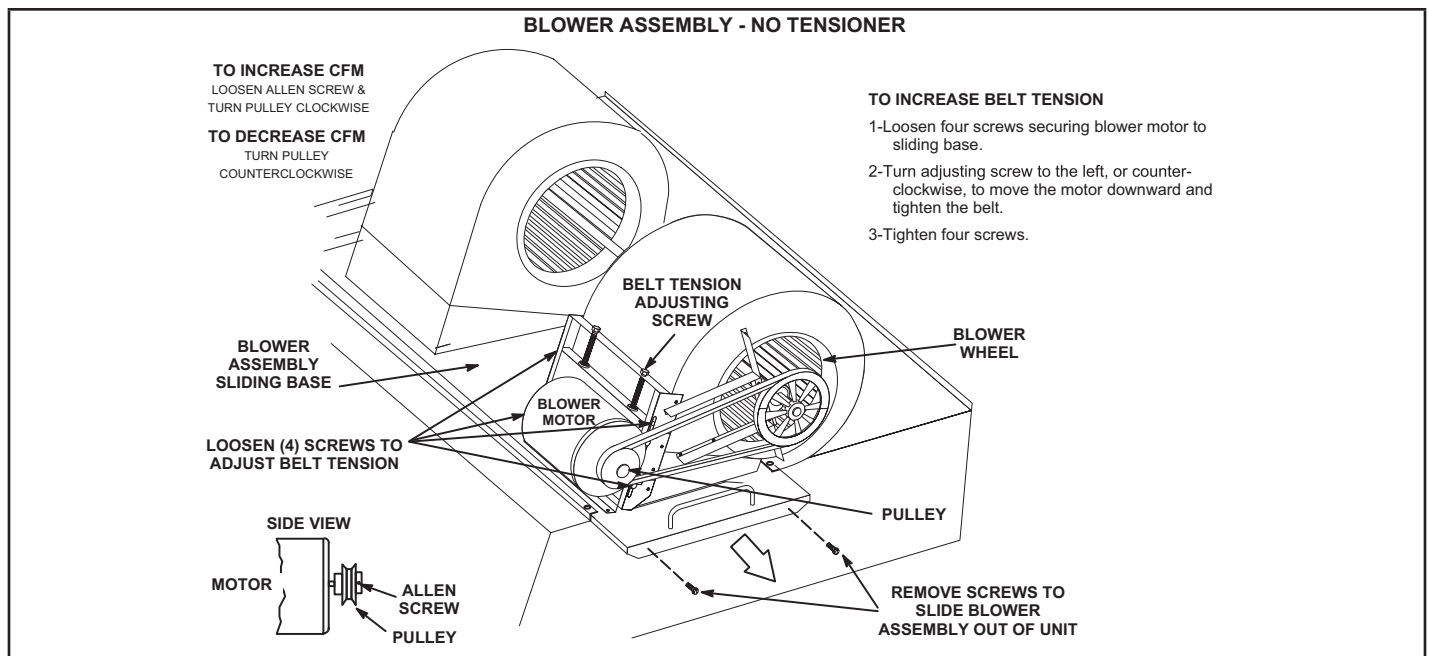

FIGURE 20
The blower compartment is located between the evaporator coil and the compressor / control section on the opposite side of the condenser coil. The blower assembly is accessed by disconnecting the blower motor wiring (and all other plugs) and removing the screws on either side of the sliding base. The base pulls out as shown in FIGURE 20.
- 2 - Remove screws on either side of blower assembly sliding base. See FIGURE 20.
- 4 - The blower RPM can be adjusted at the motor pulley. Loosen Allen screw and turn adjustable pulley clockwise to increase CFM. Turn counterclockwise to decrease CFM. See FIGURE 20. Do not exceed minimum and maximum number of pulley turns as shown in TABLE 9.
- 1 - Loosen four screws securing blower motor to sliding base. See FIGURE 20.